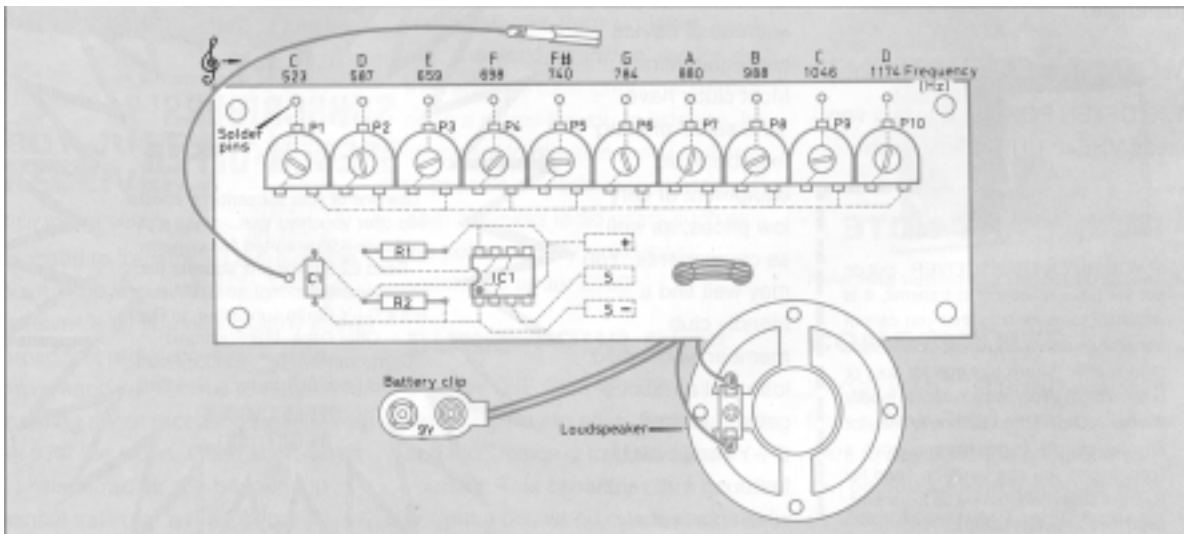
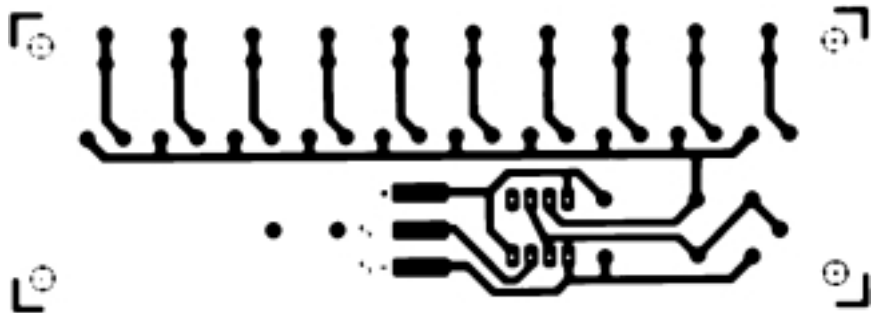
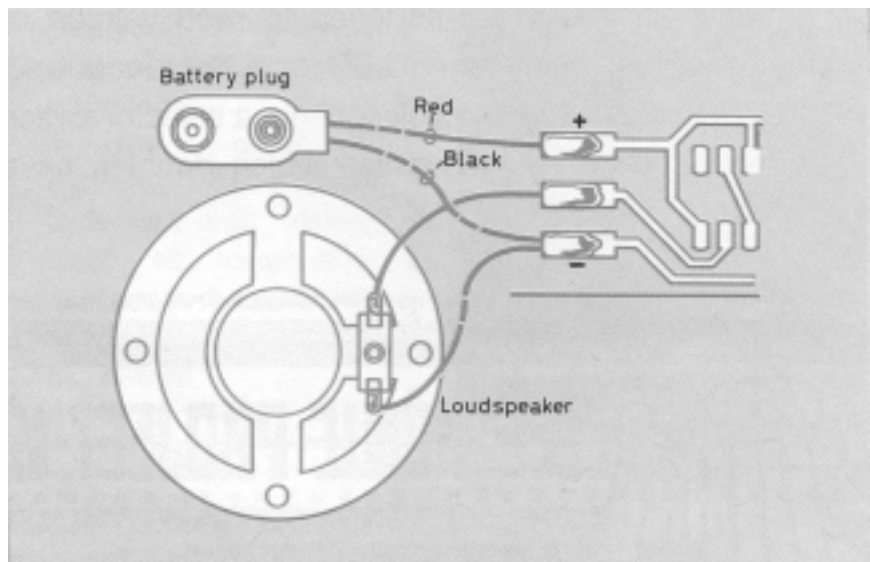

Figure 2 Position of components on the printed circuit board (PCB)
Figure 3 The connections
Figure 4 Battery plug and loudspeaker connections
- (a) Using a PCB. The job is very simple. The placement of components on the unsoldered side of the board is shown in **Figure 2** and the design on the copper track is illustrated in **Figure 3**. Put each component, in turn, on the board, making sure that it lies flat on the board with its tags or wires going cleanly through the holes provided for it; then, solder the wires to the board, cropping them before or after the soldering,
depending on your preference. If you choose to use a holder for your integrated circuit (highly recommended if your soldering is less than perfect), make sure that the end with a notch in it faces R1 and R2, as shown in Figure 2. Solder the two leads to the speaker to the tabs marked S (either way round), having looped them through the two holes to the right of the tabs in Figure 2. Looping them through the holes acts as a strain relief, ensuring that the soldered joints are not subjected to pulling and bending as you move the wires about. Do the same with the battery leads, the red lead going to the + tab and the negative lead to the – tab (which also has one speaker lead already attached to it). **Figure 4** shows this in detail. Treat the loudspeaker with care – the cone is quite fragile and must not be touched.
- (b) Without a PCB. This is more difficult, and you may need to enlist some help. Using some matrix board (such as Veroboard) is probably the best way of replacing the PCB. You could arrange your circuit in exactly the same way as in the PCB in Figure 3, using wires to replace the copper track.
The keyboard is a row of solder pins along the rear edge of the PCB, one for each note covering the range shown in Figure 2. A flying lead with a small spade on it is provided to touch any of the pins in turn, producing any one of ten different notes.
After you get the first note, all the others should work, too, but they will sound off-tune at first. The organ needs tuning up by adjusting the 10 preset variable resistors P1 to P10. The approximate frequency to which each note should be tuned is given in Figure 2; if you can beg, borrow or steal a frequency counter, setting up is easy. If you have a piano, the organ can be tuned by comparison of the notes with those on the piano. The frequencies are given in Hertz (abbreviation Hz), and represent the number of times the IC switches on and off every second. If the sound coming from the loudspeaker is too loud or very distorted, then try putting an 330Ω resistor (colour code orange, orange, brown) in series with the loudspeaker. This is done by taking the resistor and cutting its leads to about 5 mm; then, disconnect one speaker lead from the tab on the PCB (it doesn't matter which). Solder one end of the resistor to the vacated speaker tab, and the free speaker lead to the other end of the resistor. This will limit the volume of sound from the speaker, and lengthen the life of your battery. If it is still too loud, try a resistor of a larger value, or use a smaller resistor to make it louder.